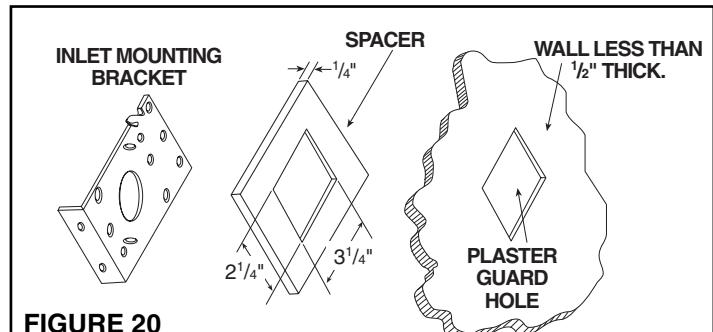

FIGURE 20
**NOTE:** When using the Model 361 inlet bracket on walls thinner than  $\frac{1}{2}$ ", use a  $\frac{1}{4}$ " spacer (not furnished) between the wall and the inlet bracket. See Figure 20. Spacer may be made from plywood, Masonite™, etc. Contact cement may be used to hold spacer in place during assembly. Configuration of spacer may vary depending upon installation.